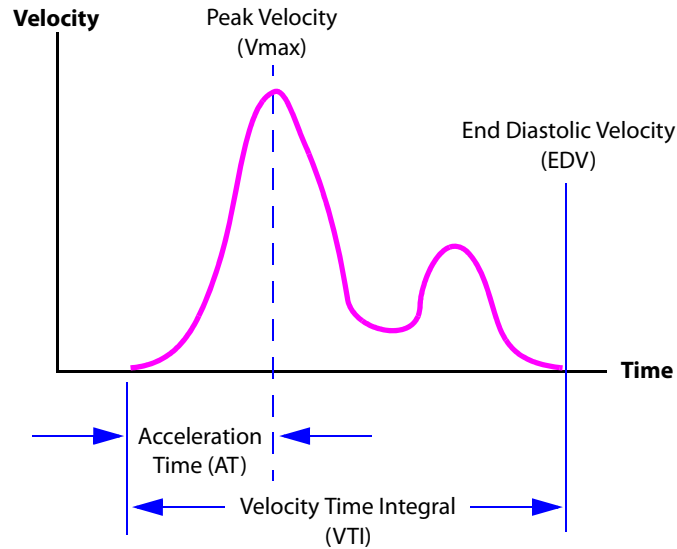

Figure 1 Trace Calculations of the Doppler Wave Form
*Note: If calipers are not placed in the correct position, the calculation will not be performed accurately. See Figure 1.*